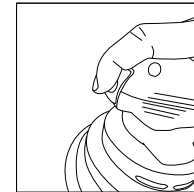

figure 3
3. Adjust the speed by rotating the knob from 1 to 6 level. - see figure 3.